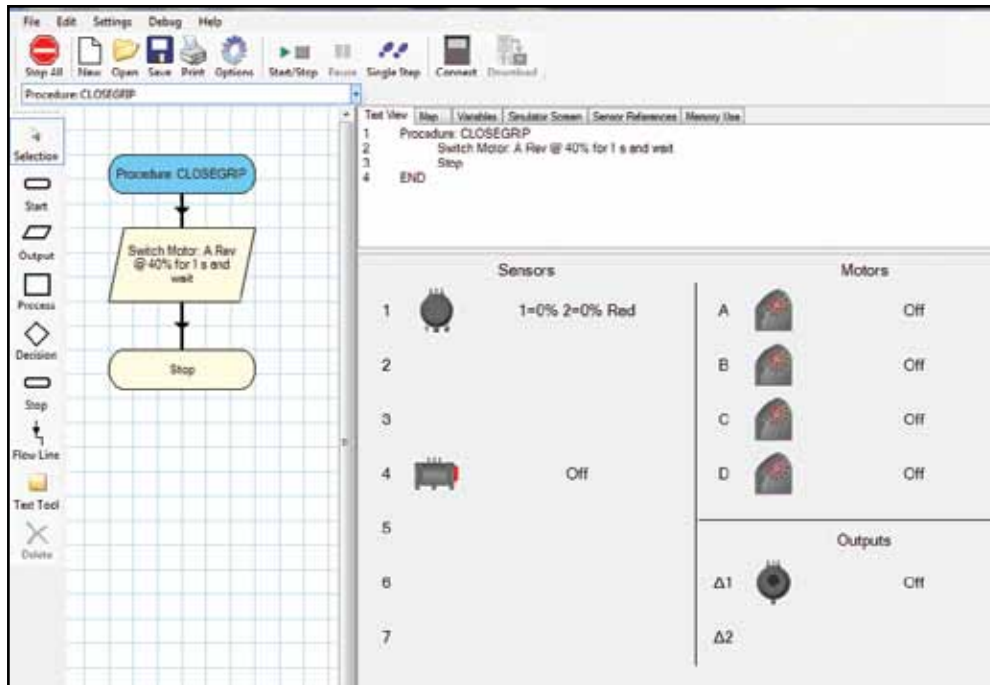

Figure 4b: Procedure "CLOSEGRIP".
- Figure 4b shows the logic of the "CLOSEGRIP" procedure that closes the Robot's hand to grab the ball. Motor A turns forward at 40% for 1 second to grip the ball.